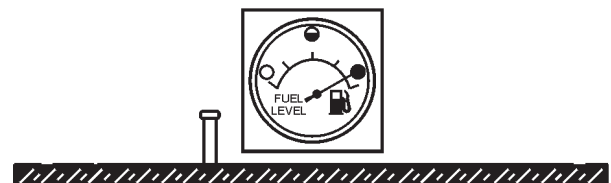

Figure 35. Full Fuel Tank
3. **NEVER overfill fuel tank** – It is important to read the fuel gauge when filling trailer fuel tank. **DO NOT** wait for fuel to rise in filler neck (Figure 35).